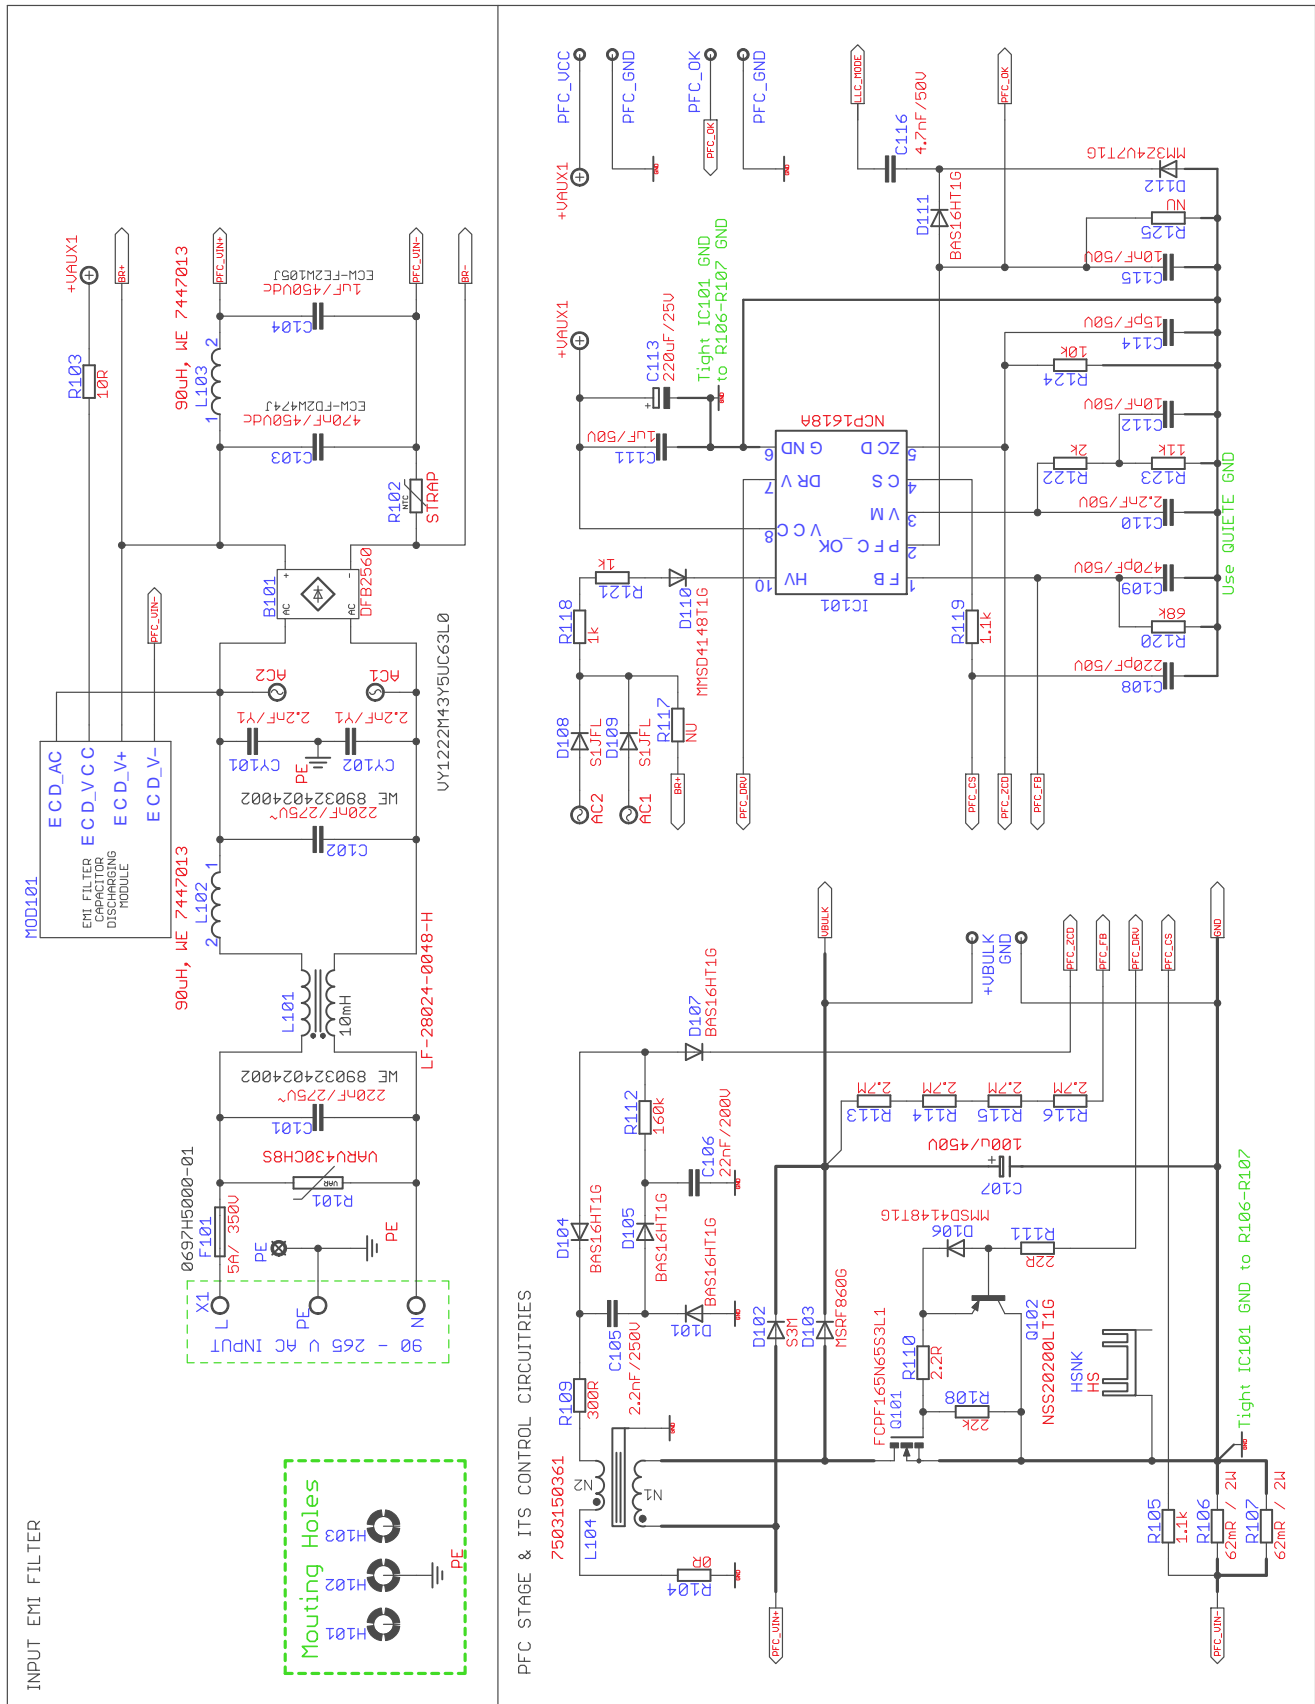
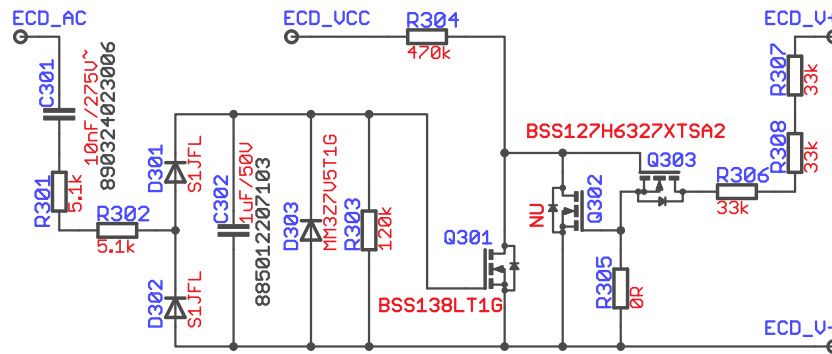

Figure 2. AOI Evaluation Board Schematic – PFC Front Stage
Figure 4. EMI Capacitor Discharging Module (MOD101)
Input side of evaluation board is protected by a several components. As first, it's a 5 A slow reaction fuse F101, which disconnects input in case wrong manipulation, line overvoltage stress event and unexpected stresses or conditions. Voltage dependent resistor R101 serves as input overvoltage protection triggered at approximately 275 V AC. Demo-board implements inrush-current limiting device, R102 NTC thermistor which is not assembled to allow clear efficiency measurement (Figure 2). It's recommended to assemble R102 in case of testing in hard conditions (using power grid directly or AC power supply without current limit). Use appropriate NTC inrush current limiter in case of need.
EMI filter is formed by components L101, L102, L103, C101, C102, C103, C104, CY101 and CY102 (Figure 2). The IC101 – NCP1618 measures input line voltage via diodes D108, D109, D110 and resistors R118, R121 to detect present of Brown-out/ Brown-in and SAG conditions as well as distinguishes input line level. This circuit also provides PFC Vcc Start-up feature for building controller Vcc supply. The Power Factor Corrector (PFC) power stage implements standard boost PFC topology composed of following power devices; bridge rectifier B101, power (boost) inductor L104, power MOSFET switch Q101, boost power diode D103, bypass diode D102, shunt resistors R106–R107 and bulk capacitors C107, C201–C202. The PFC controller IC101 (NCP1618) senses input voltage directly via pin 10 (HV) through network of D108, D109, D110 and resistors R118, R121. The PFC inductor current is monitored on the shunt resistor R106–R107. The series resistors R105–R119 set maximum current. Capacitor C108 that is connected between those resistors filters noise caused by switching. Maximum current through resistors can be calculated based on NC1618 datasheet. The PFC feedback divider has high impedance (approximately 10.8 MΩ) which ensures low consumption in no-load or light-load mode conditions. PFC FB divider is created from upper resistor R113–R116, lower resistor R120 and capacitor C109. The PFC FB signal is filtered by capacitor C109 to minimize noise caused by the parasitic capacitive coupling between pin and other nodes that handle high dV/dt signals. PFC FB divider sets nominal bulk voltage level which is 400 V approximately. NCP1618 features positive bulk
Schematics diagram in Figure 2 contains module with designator MOD101. Internal schematic diagram of this module is displayed in Figure 4. MOD101 was designed as a part of PFC stage and it's a discrete solution for discharging EMI filter differential capacitors. This element was named as “EMI Capacitor Discharging Module”. Module works in very simple way based on charge pump principle made of